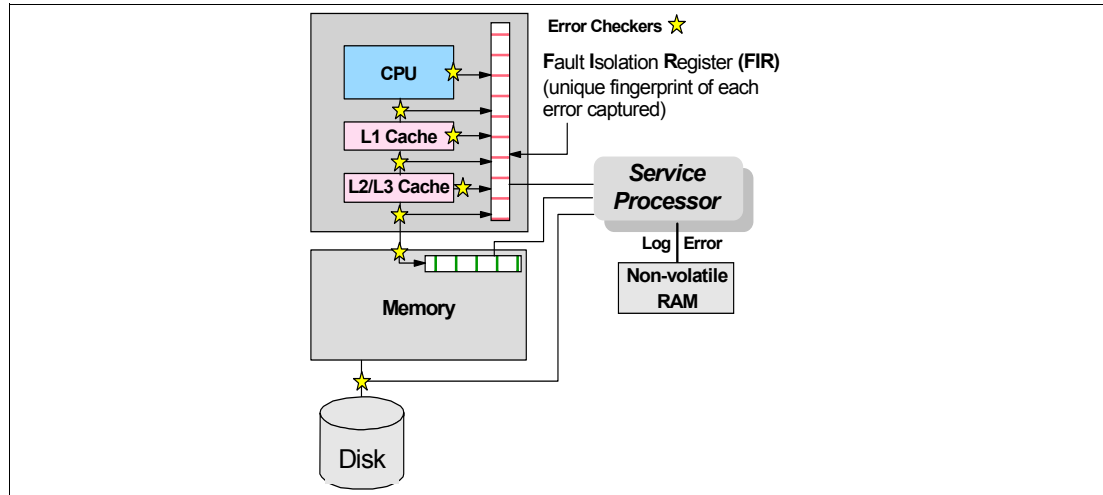

Figure 3-1 Schematic of Fault Isolation Register implementation
Any errors detected by the pervasive error checkers are captured into Fault Isolation Registers (FIRs), which can be interrogated by the service processor (SP). The SP in the OpenPower 720 has the capability to access system components using special purpose service processor ports or by access to the error registers (Figure 3-1 on page 45).